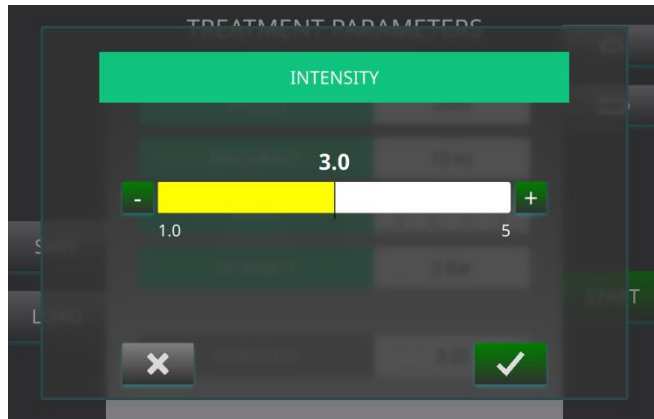

fig 7
5. For the **INTENSITY** (Bar) parameter, increase or decrease the value using the + or - buttons or by scrolling the cursor to the right or left until the desired value is reached (figure 7). It is possible to vary the INTENSITY parameter between 1.0 and 5.0.